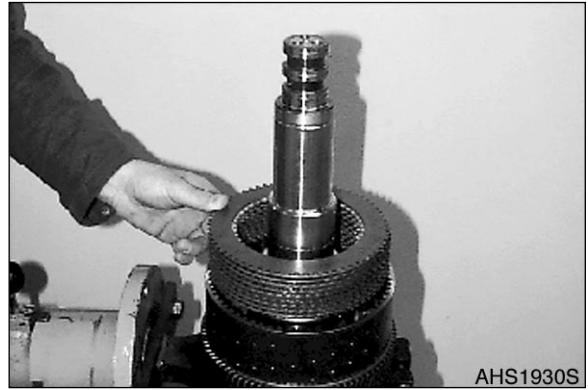
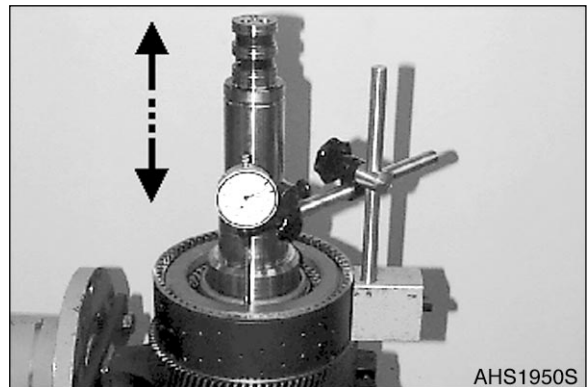

Figure 233
Figure 235
1. Check Plate clearance $K2 = 2.6 - 2.8 \text{ mm}$ (Figure 233 - Figure 235).